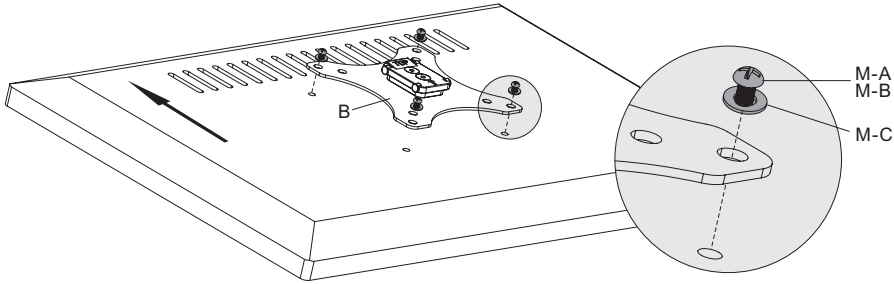

Figure 9
- 1. Turn the VESA Plate so that "TOP" faces up, then mount it onto the monitor, see Figure 9.
- 2. Install Washer (M-C) with either M4x12 Bolt (M-A) or M5x12 Bolt (M-B) into the monitor's mounting holes, tighten them using a Phillips screwdriver, see Figure 9.